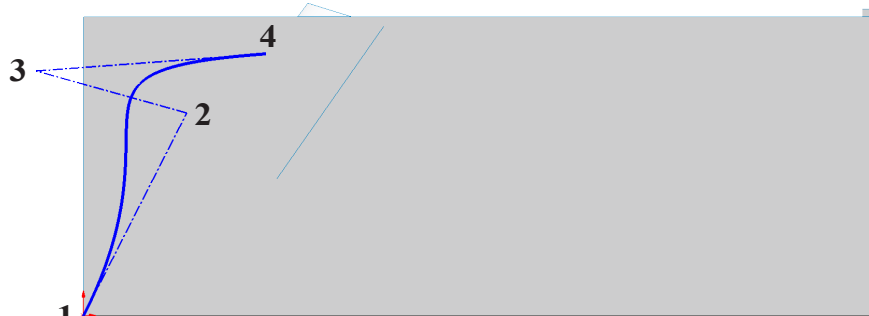

Fig. 21
Step 4. Starting at Origin  sketch a **4 control vertex point Spline**, **Fig. 21**. Press Escape to end spline.